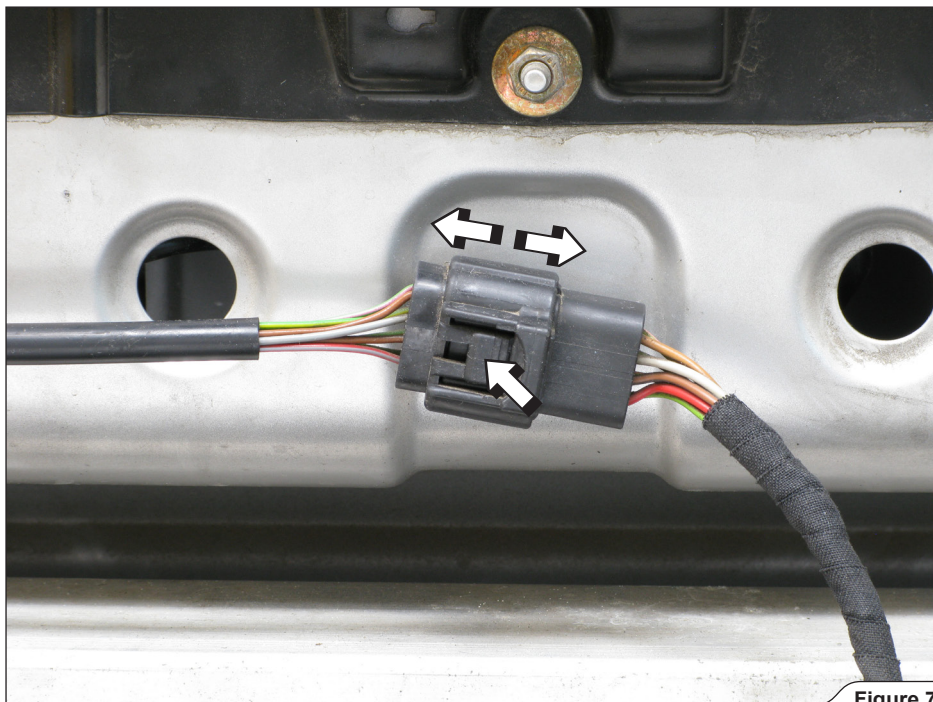

Figure 7
5. **For Slip-On and Evolution:** disconnect the number plate's light and park sensor's connector and remove the rear bumper (**Figure 7**).